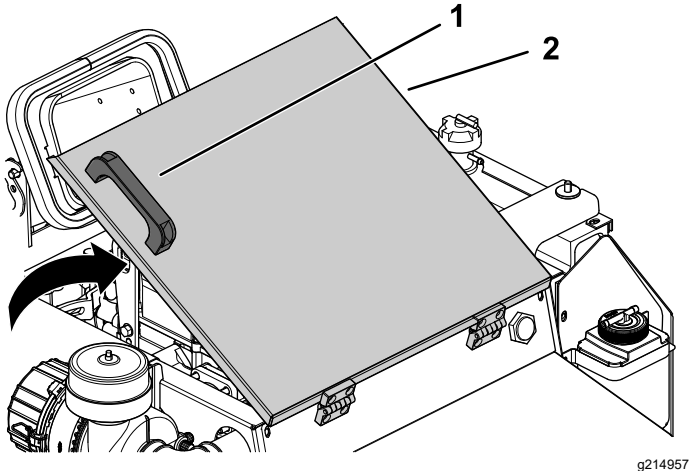

Figure 57
2. Using the handle on the engine-access cover, raise the cover to access the engine (Figure 57).